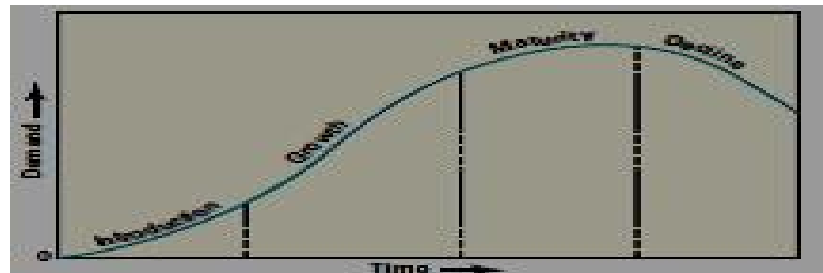

Figure 3.1: Product Life Stages
**Product Life Cycle (PLC):** Products go through a sequence of stages during their useful lives, which are depicted in Figure 3.1. Demand is often the phase-dependent. In such a situation, different tactics are required for different phases. For successful business organizations, demand and cash flow estimates are critical inputs for strategy at every stage for a particular product.